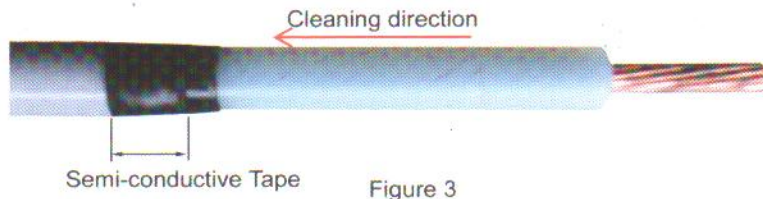

Figure 3
2.2. Wrap Semi-conductive Tape (Figure 3)
2.3. Cleaning the Main Insulation (Figure 3)